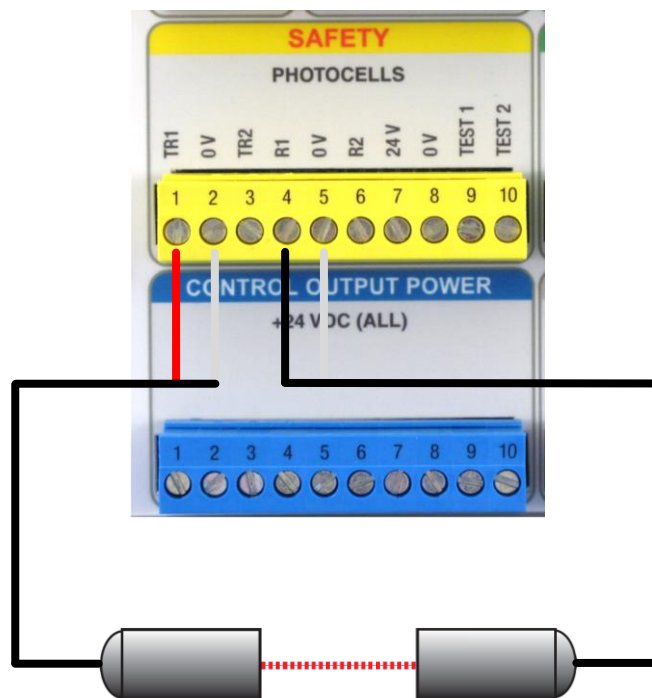

Figure 13: BTR Controls Photoeye Wiring
3. Connect the transmitter and receiver wiring to the **SAFETY PHOTOEYES** terminal block on the DGII® as shown in Figure 13.